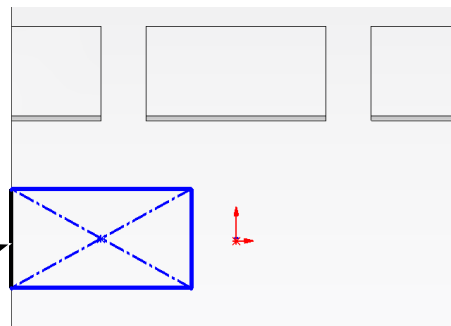

Fig. 26
Step 7. Sketch a **center rectangle with left side of rectangle coincident with left edge of Extrude1**, **Fig. 26**.